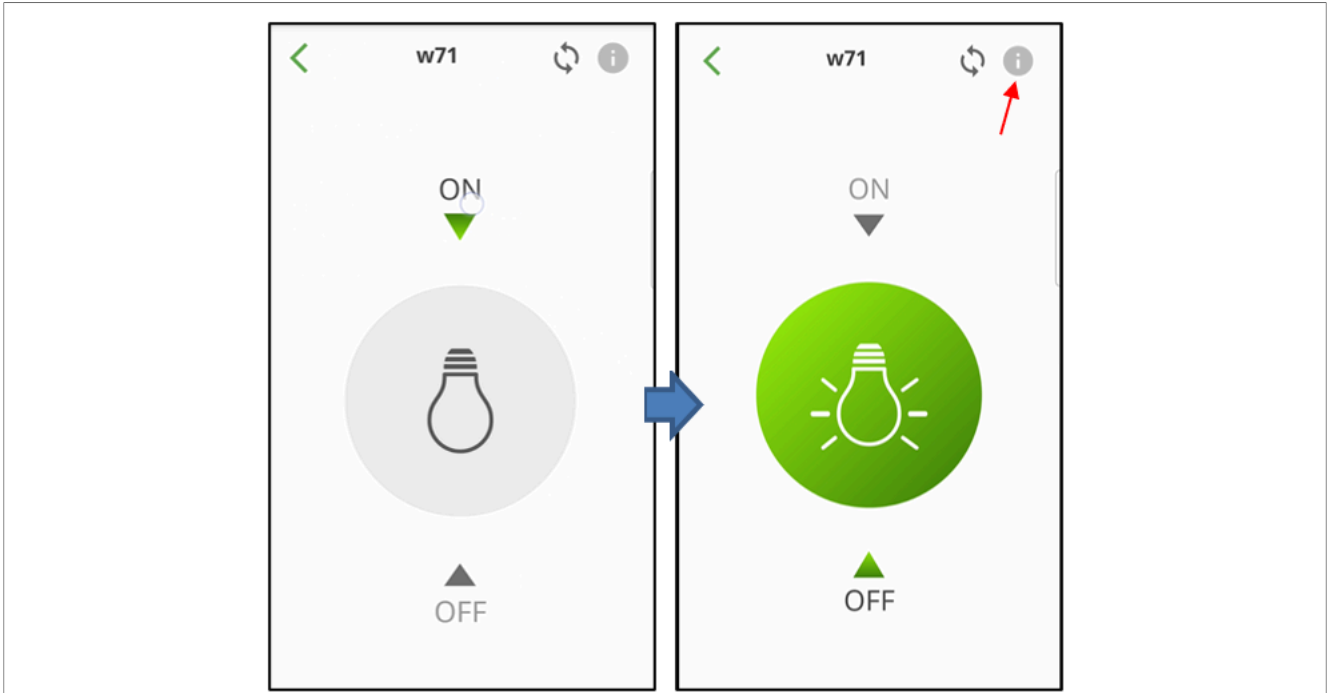
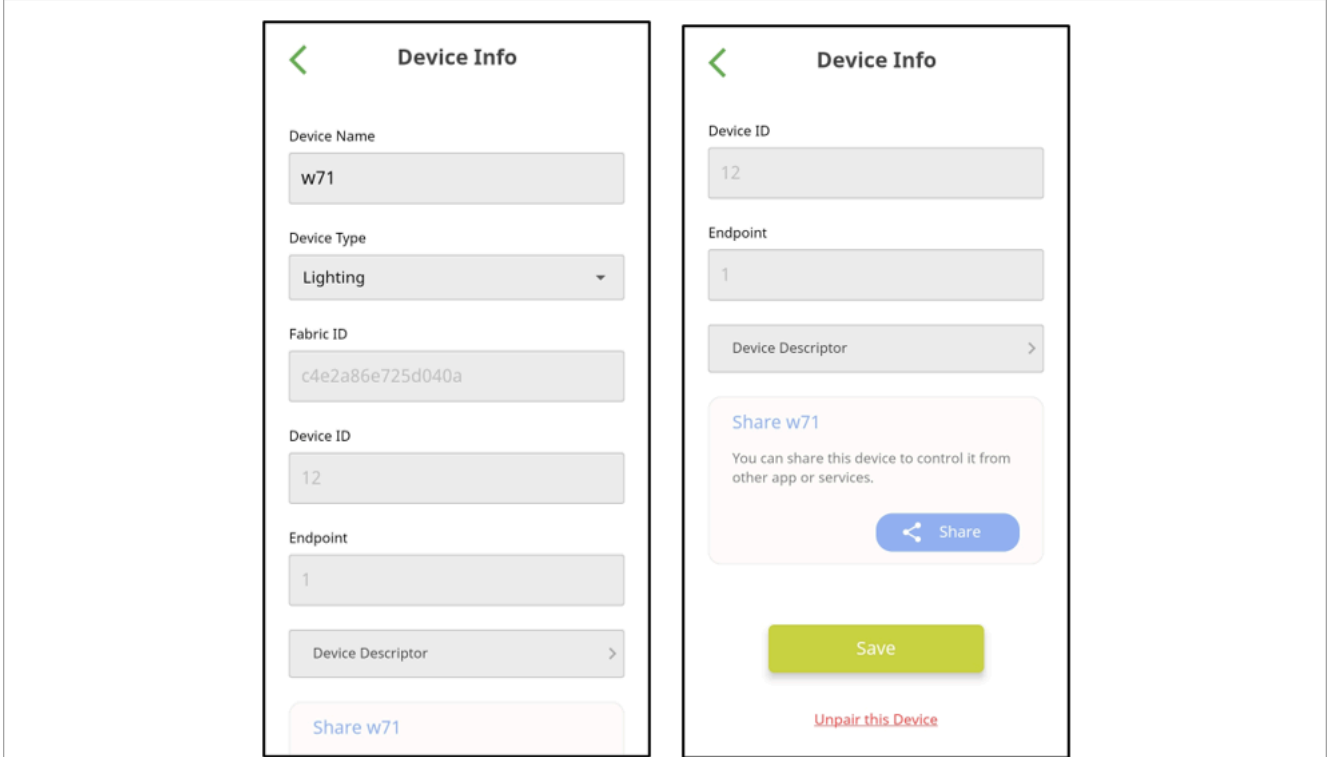

Figure 27. FRDM-MCXW71 control light screen
Figure 28. FRDM-MCXW71 information screen
6. With the use FRDM-MCXW71 switch, click the information button in the upper right corner as shown in Figure 27 to see the FRDM-MCXW71 device information ( Figure 28).